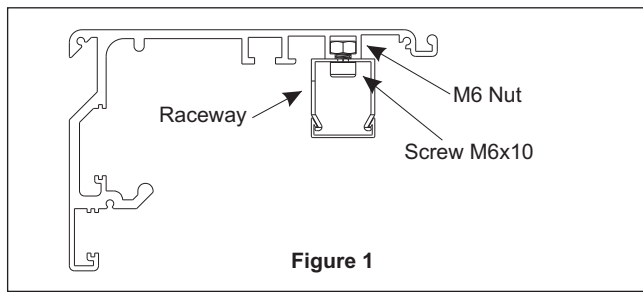

Figure 1
- If the raceway has not already been installed, cut it to size in accordance with the tables in paragraph 3.6 and fasten it to the crossbar using the screws and nuts supplied, as shown in figure 1. The spacing between nut and nut should be 400 mm.